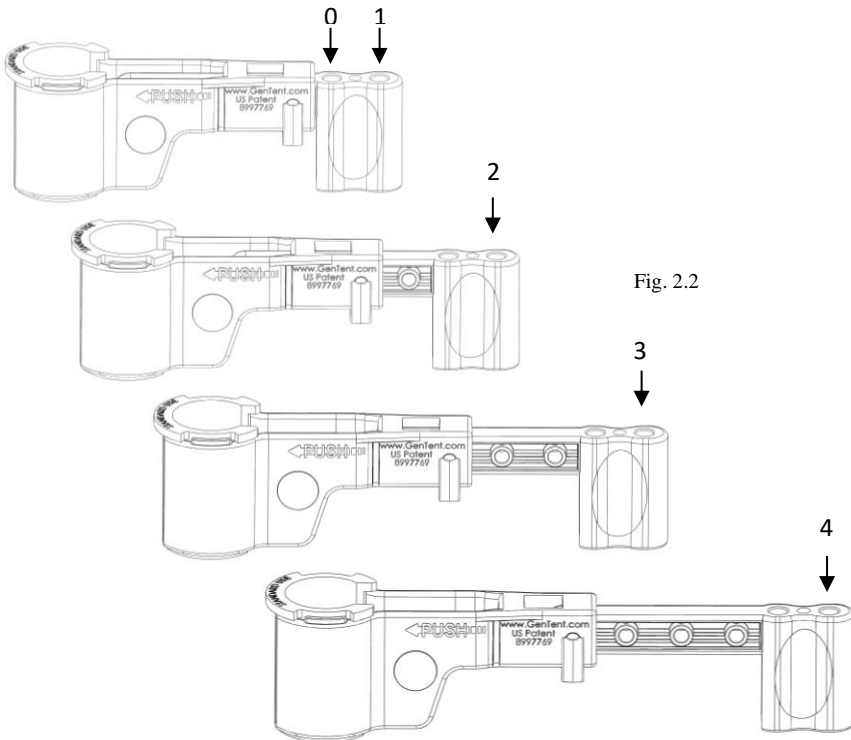

Fig. 2.2
- g. Match the measured length and width of your generator to the Easy Adjustment Guide to determine the pin set number. Adjust the telescoping rod to the appropriate hole and install the molded ring pin to secure. (Fig 2.2)